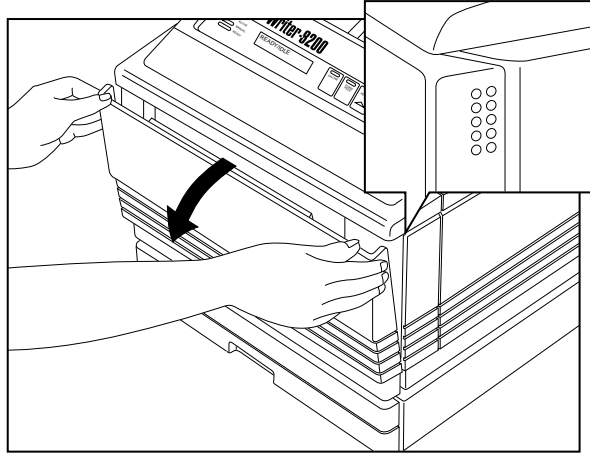

Fig. 2.3 Open the Fold Down Tray
5. Open the fold down tray by grasping the top corners and pulling out and down (fig. 2.3).
1. If the fold down tray is closed, open it by grasping the top corners and pulling out and down (fig. 2.3).